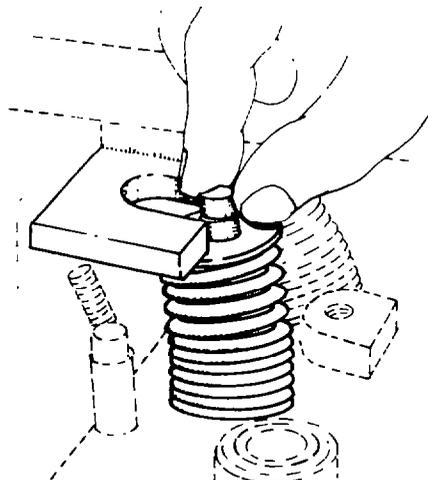

Fig. 49 — Installing Valve Collets
- c. Compress the valve springs and install the valve collets (see fig. 49).